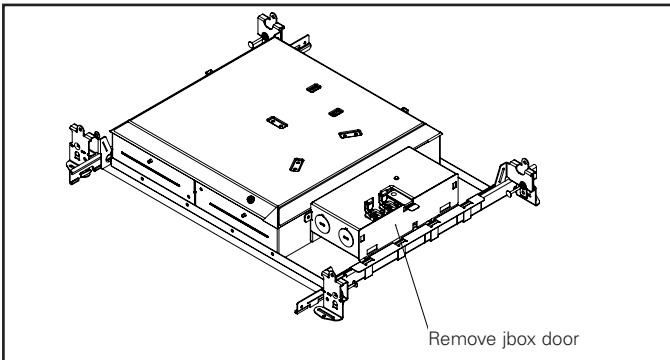

Figure 11.
1. Remove outer JBOX door. Connect supply leads and appropriate dimming/ controls leads as specified in the wiring diagrams and in accordance with your local electrical code(s) or N.E.C. (see Figure 11 and 12).